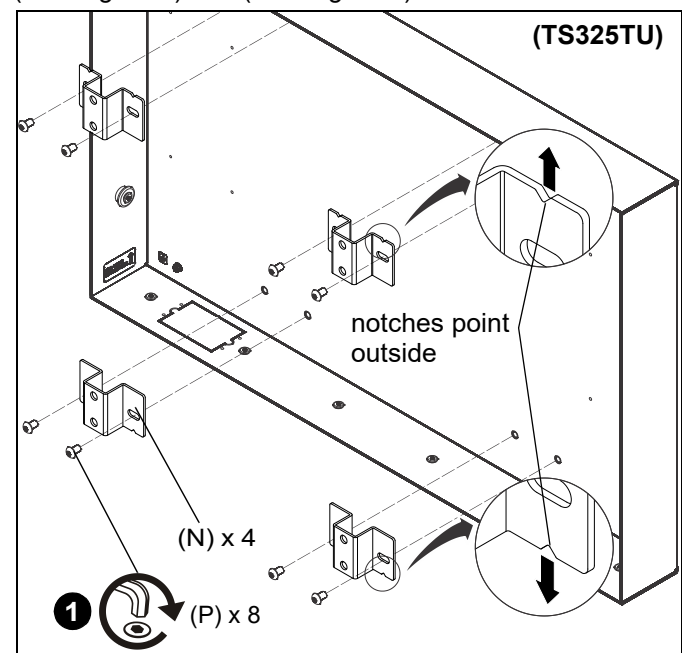
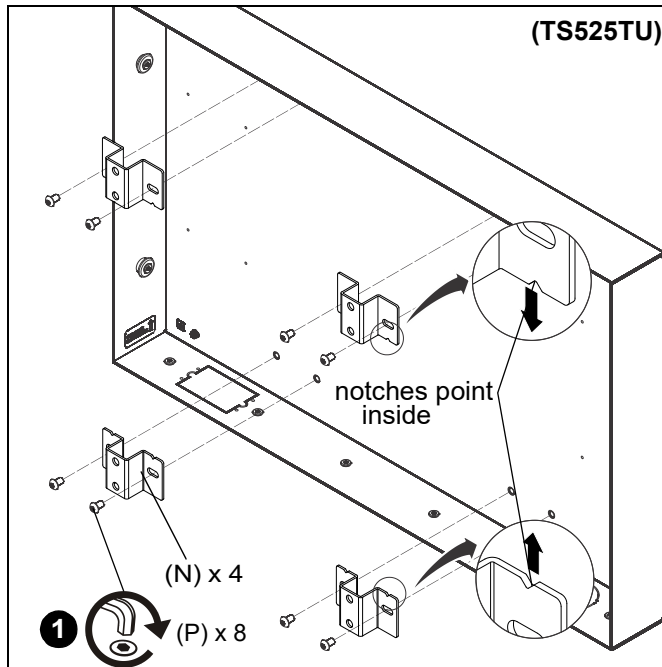

Figure 7
Figure 8
1. Use eight 5/16-18 x 1/2" button head cap screws (P) to attach four attachment brackets (N) to the TA500 (A). (See Figure 7) and (See Figure 8)
IMPORTANT ! : Bracket orientation is different depending on mount being installed. Notches point to the outside for TS325TU and to the inside for TS525TU. (See Figure 7) and (See Figure 8)